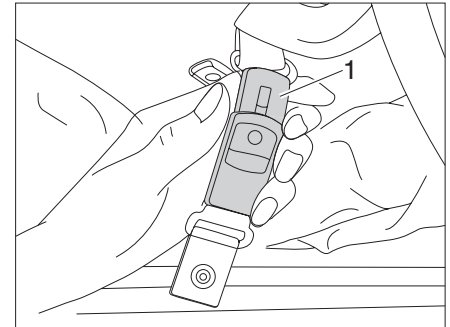

Fig. 44 Closing the securing belt
- ▶ Close the securing belts (Fig. 44,1).